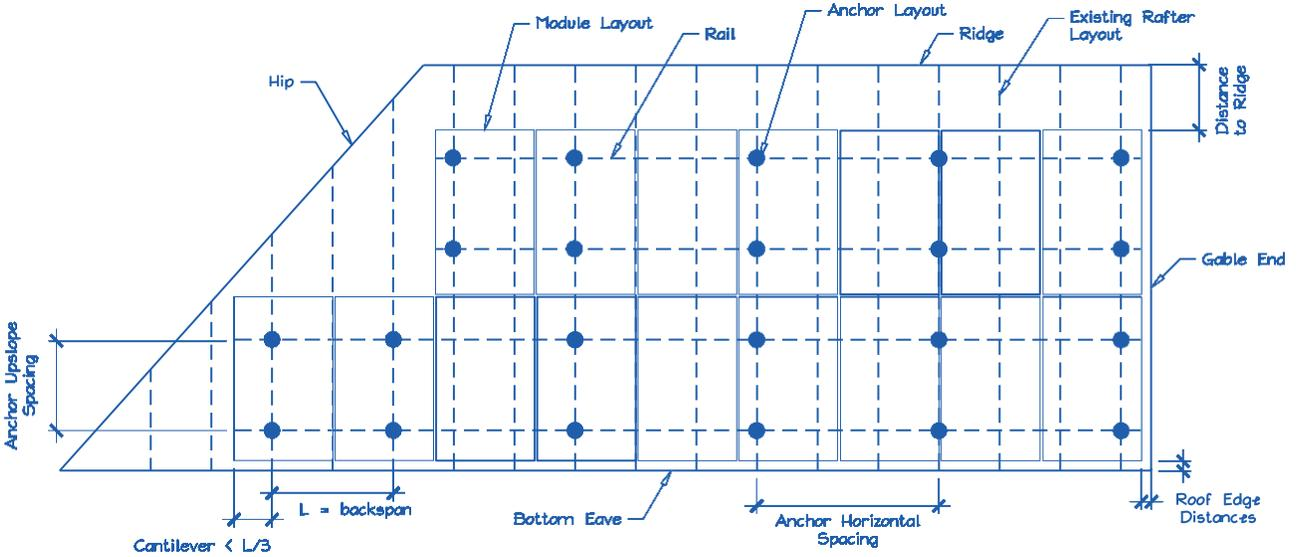

Figure 2. Sample Solar Panel Array and Anchor Layout Diagram (RoofPlan).
E. Is a roof plan of the module and anchor layout attached? (see Figure 2)
- 1) Proposed anchor horizontal spacing (see Figure 2): _____' - _____"ft-in
1. Anchors are also known as "stand-offs," "feet," "mounts" or "points of attachment." Horizontal anchor spacing is also known as "cross-slope" or "east-west" anchor spacing (see Figure 2).